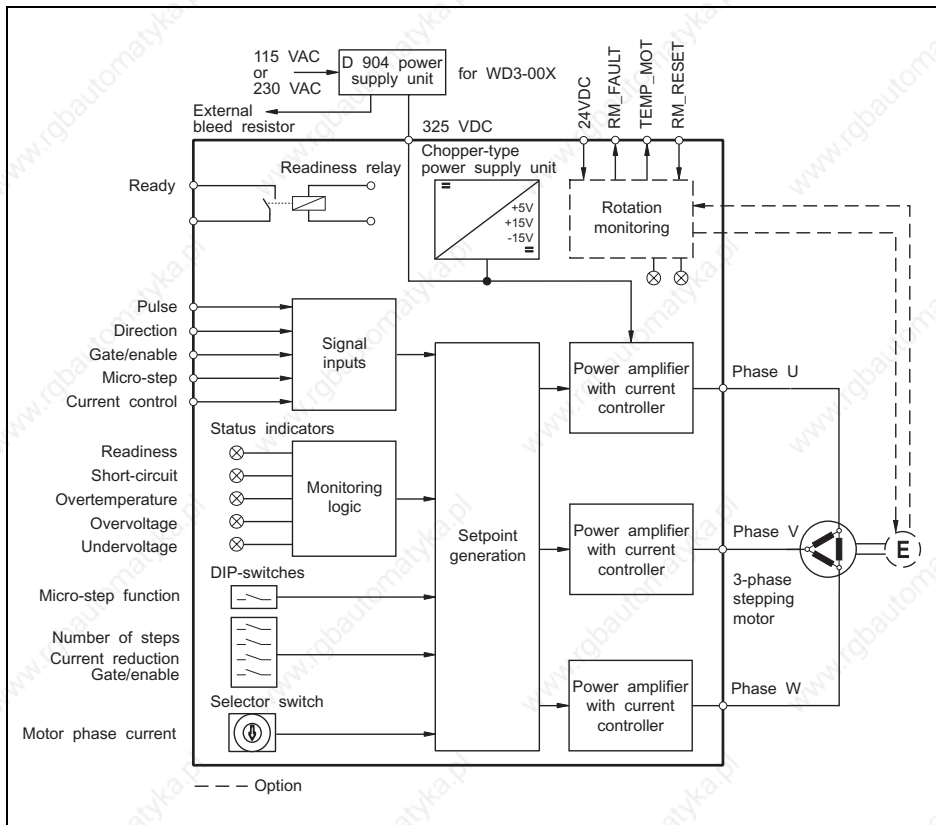

Fig. 2 D 901 or D 950 block diagram
**Functions** The block diagram (fig. 2) shows the principal function blocks of the power drive.